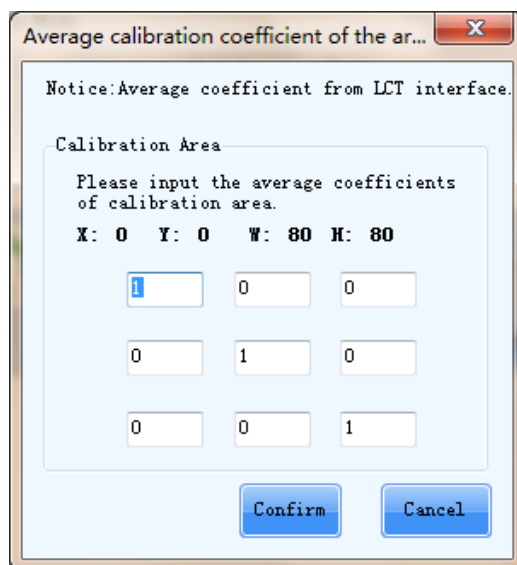
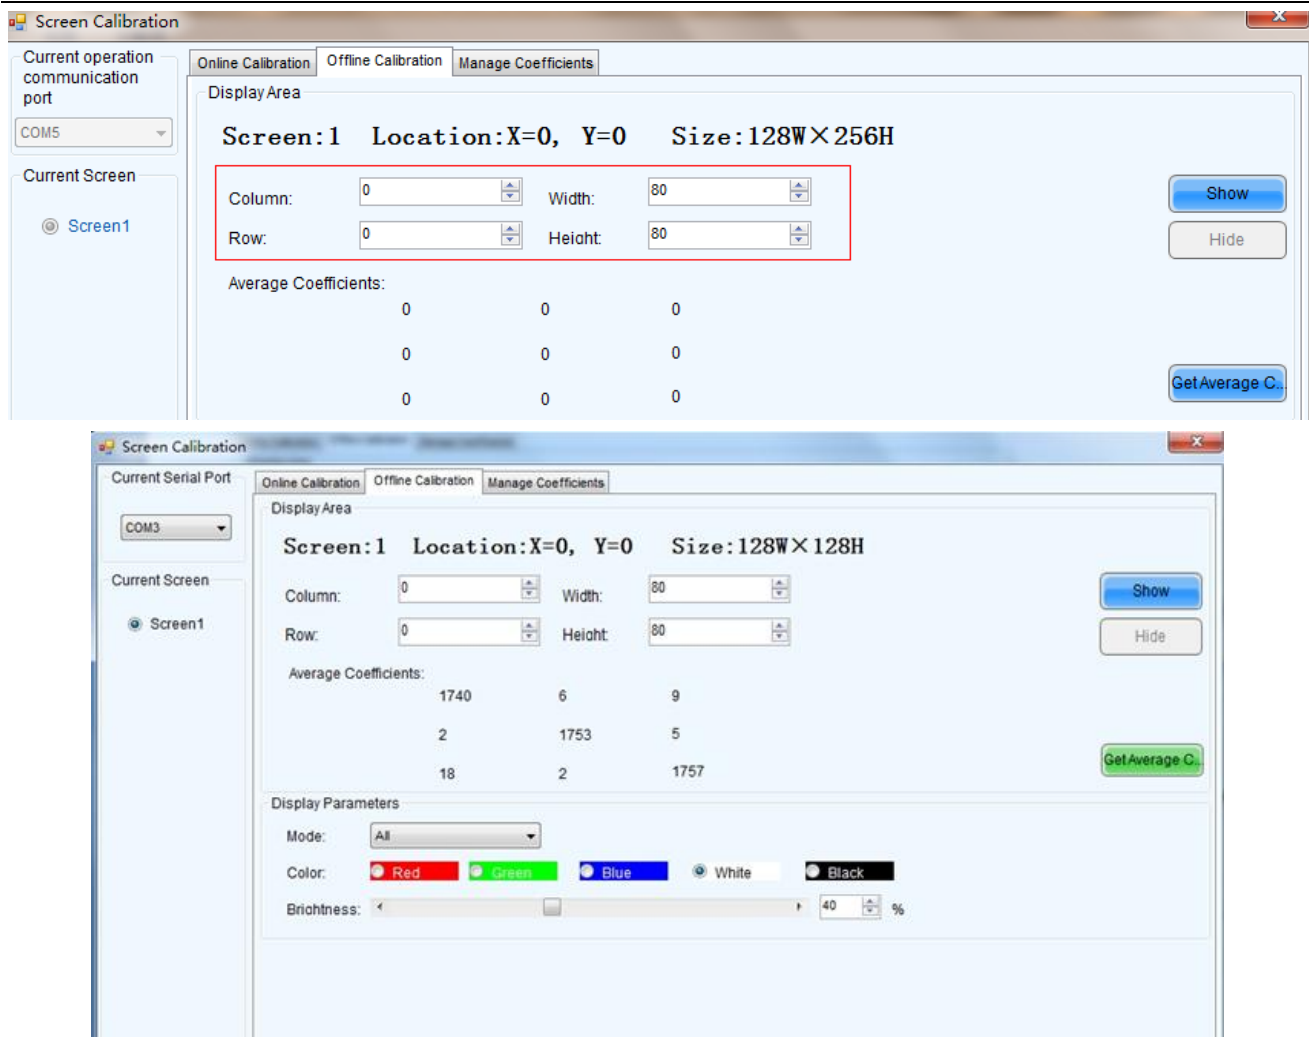

Fig.4-18 Average calibration coefficient of the area
Fig.4-19 Offline-Get Average coefficient
Respectively fill the coordinate, width and height (X, Y, W and H) of the new module area and the collecting area of the Fig. 4-18 into the display area of Fig. 4-19, and then click "Get average coefficient" to get the average coefficients of the new module area and the area to be collected.
- 4) Input the average coefficient of the collecting area at the average coefficient to be calibrated window of NovaCLB-Screen (as shown in Fig. 4-18).